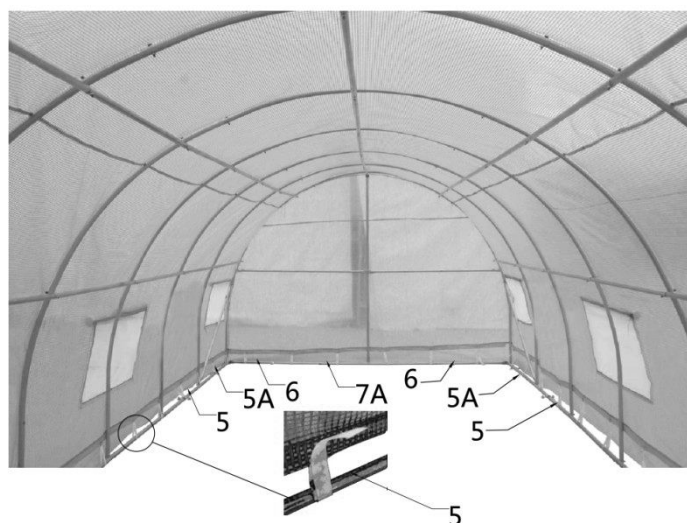

Figure 14
- Tie the left and right sides of the fabric and the rear truss to eliminate wrinkles. The fabric is tensioned and tied to the roof purlin (#5) and (#5A) at the lower part of the truss, and the bottom tension bar (#6) and (#7A) at the lower part of the rear truss with the Velcro on the fabric. (refer to Figure 14)